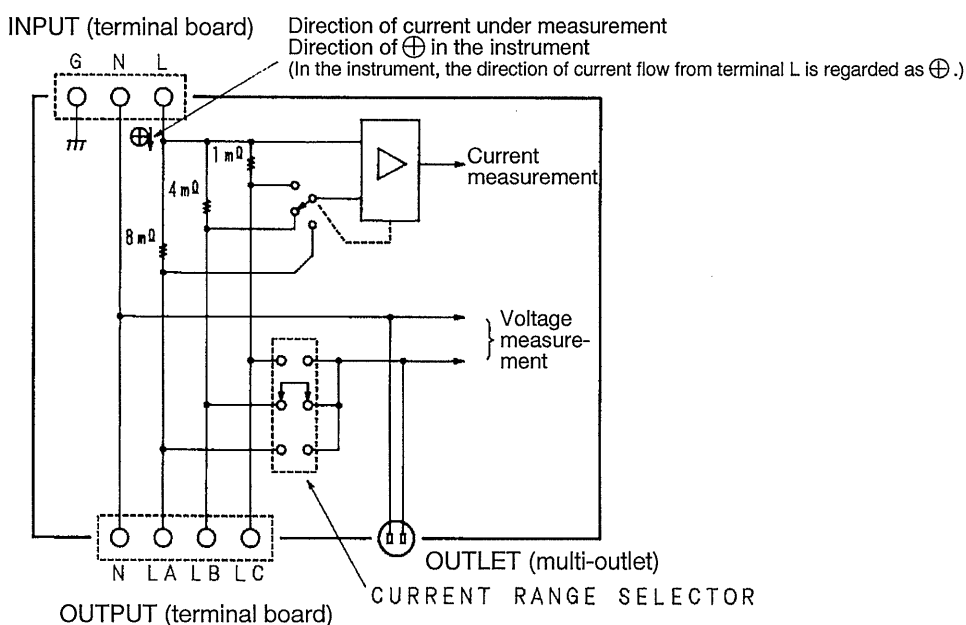

Fig. 2-1 Principle of Current Detection
Figure 2-1 shows the principle diagram of current detection in the current sensor.
- As shown in Fig. 2-1, Principle of Current Detection, the current-range selector is used to select the current-detecting resistor. It also plays the role of switching the input of the terminal voltage measurement of the equipment under test.